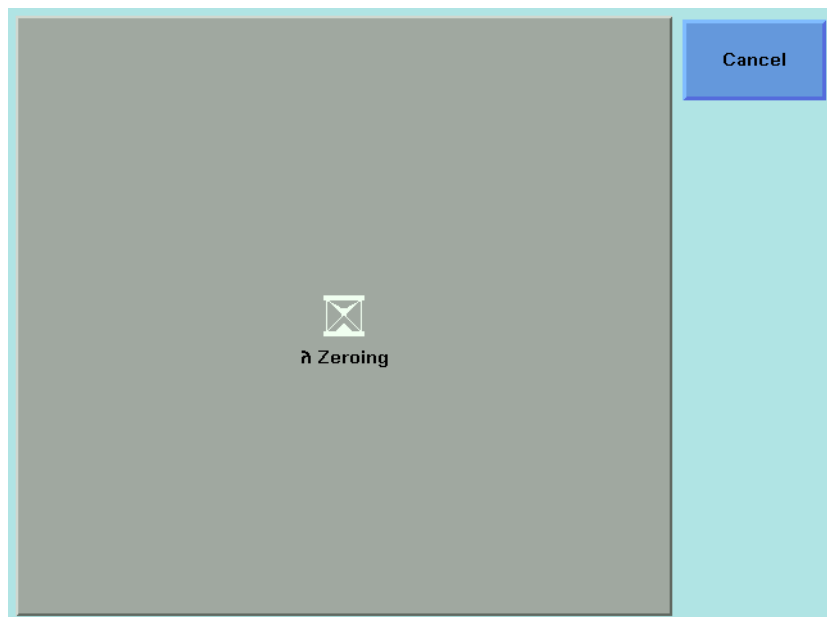

Figure 82  $\lambda$  Zeroing Screen
- 2 Move to  $\langle \lambda \text{ Zeroing} \rangle$  and press [OK]. You will see the screen in Figure 82 .